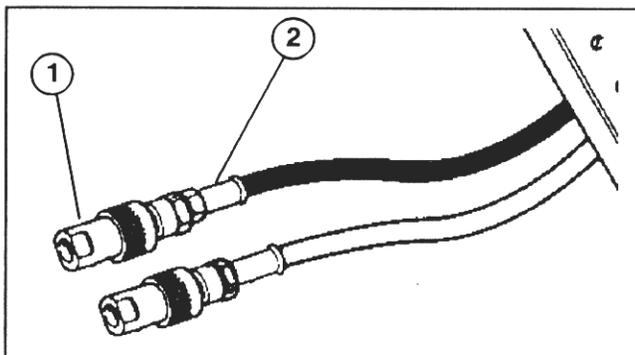

Figure 1
4. Relieve pressure in Transport Frame hydraulic system, by slowly cracking the connections between the hydraulic couplers and hydraulic hoses (Fig. 1). Use extreme caution, when cracking connections, so oil is not directed toward the skin or eyes. Wrap the connections with a rag to help catch any oil that may escape.